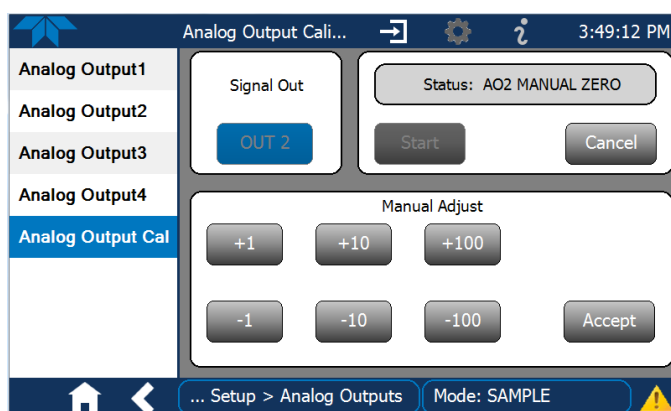
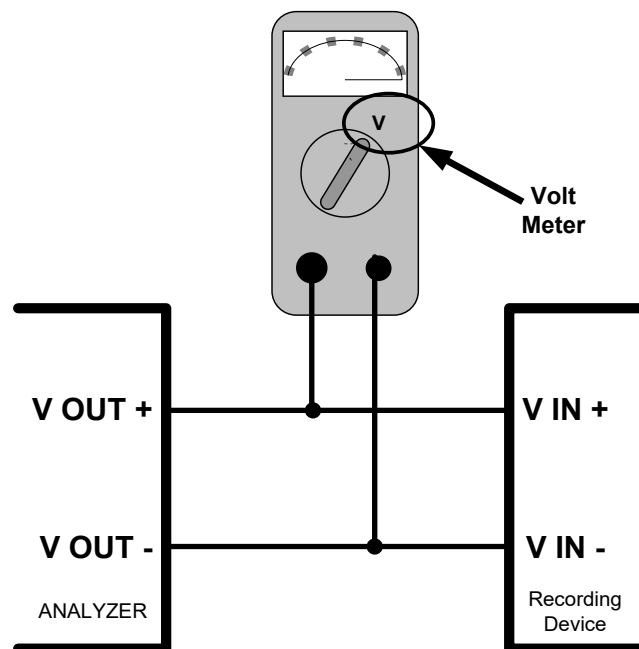

Figure 2-59. Analog Outputs Manual Calibration Screen (AOUT2 Example)
Figure 2-60. Setup for Checking / Calibrating DCV Analog Output Signal Levels
- MANUAL for individual calibration (Figure 2-59) of analog outputs where manual adjustments can be made (the only calibration type allowed when Current is selected for the Range). See Sections 2.5.8.1 and 2.5.8.2 .
It is possible to manually calibrate the voltages by using a voltmeter connected across the output terminals (Figure 2-60) and changing the output signal level in the Manual Adjust field of the Analog Outputs Calibration screen (Figure 2-59). Refer to Table 2-17 for voltage tolerances.